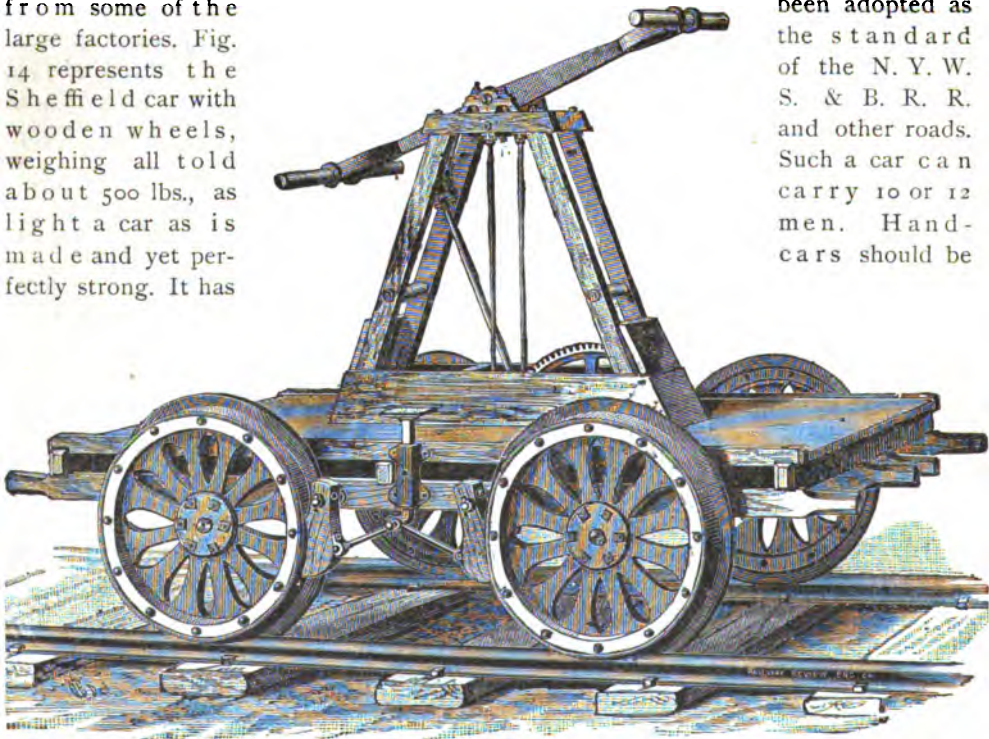

FIG. 14. HAND-CAR.
**Hand-cars** can be made at company shops, but it is about as cheap to buy them from some of the large factories. Fig. 14 represents the Sheffield car with wooden wheels, weighing all told about 500 lbs., as light a car as is made and yet perfectly strong. It has been adopted as the standard of the N. Y. W. S. & B. R. R. and other roads. Such a car can carry 10 or 12 men. Hand-cars should be